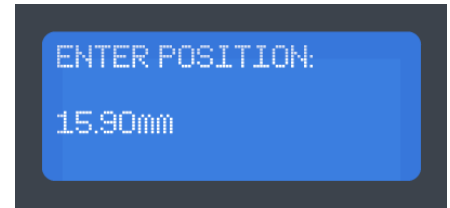

Fig. 13
1. Ensure that the AIC10 is on the Iris Status Screen, and then press the "SELECT / ACCEPT" () button once (Fig. 13).